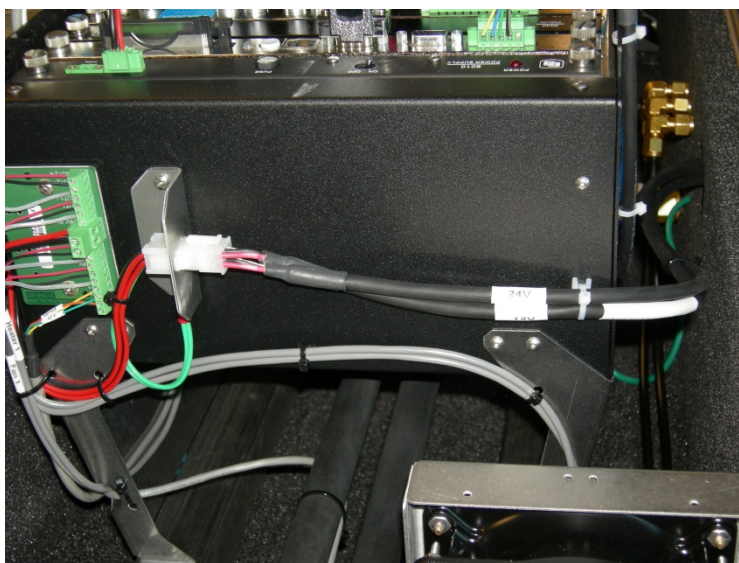

FIGURE 6-14. DC power cable connected to TGA200A and secured on electronics box
2. Remove the cable feedthrough cap from side of the TGA enclosure and insert one end of the DC power cable. Plug the DC power cable into the mating connector on the electronics box and secure the cable to the corner of the electronics box as shown in FIGURE 6-14.